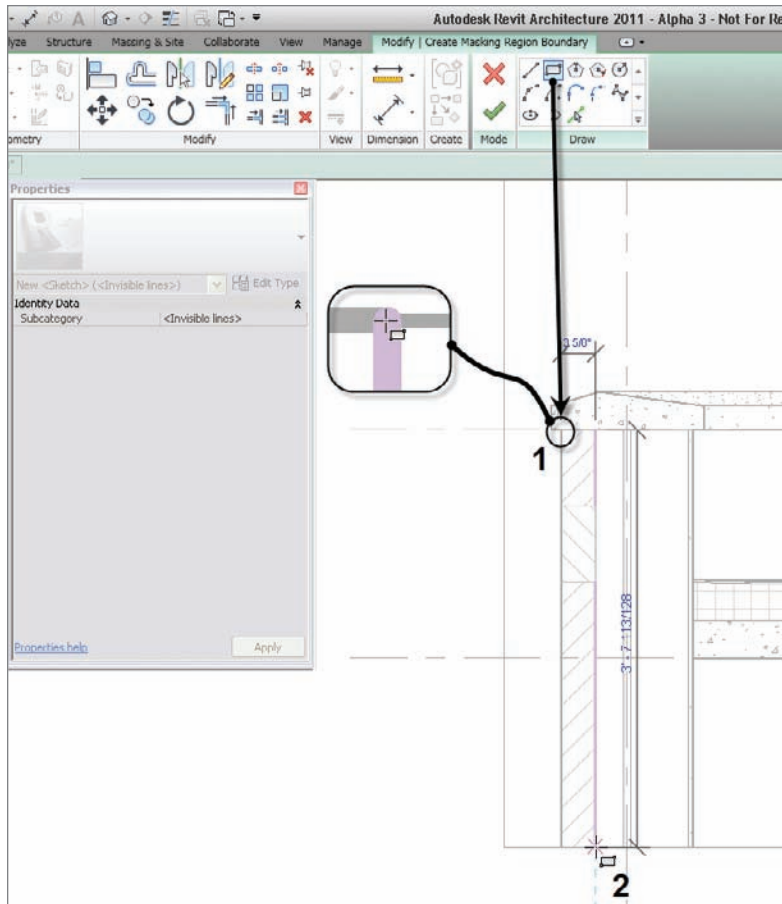

FIGURE 12.7 Click the Rectangle button on the Draw panel and place a masking region as shown.
3. In the Properties dialog you'll see some choices in the Subcategory. Choose Invisible Lines, as shown in Figure 12.7.
5. Draw a rectangle at the approximate points shown in Figure 12.7.